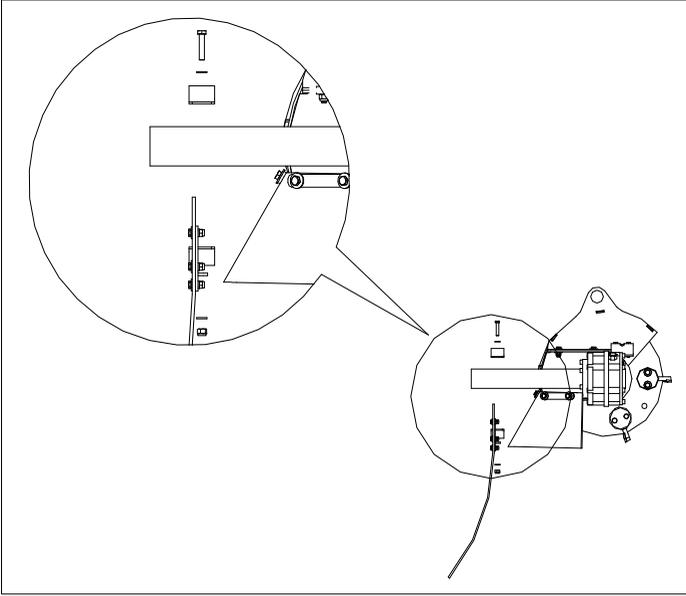

Fig. 4
- fit the front rubber guard in position and connect the lower bracket assembly with the upper one on the sleeve, by screwing the retaining screws (Fig. 4).